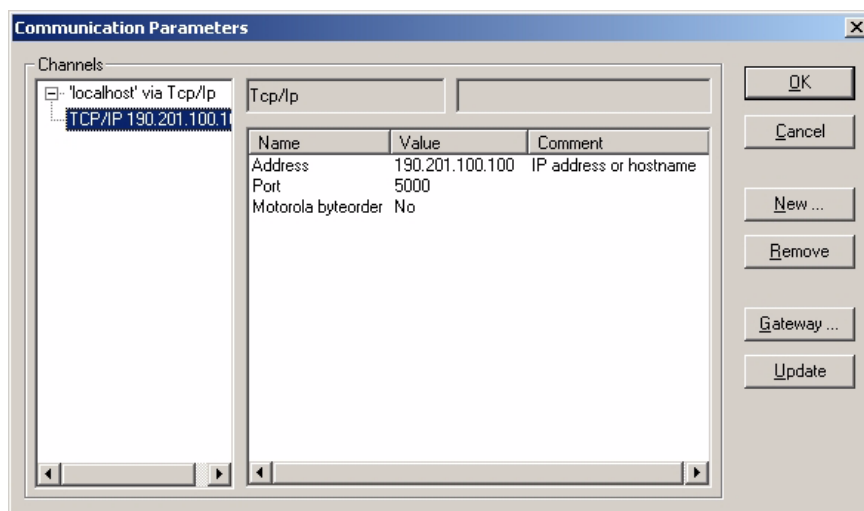

Fig. 5-27: "Communication parameter: New channel" inserted
- ▶ Click on the Value "190.201.100.100" (‘Fig. 5-27:) in the “Address“ line. The address will be marked.